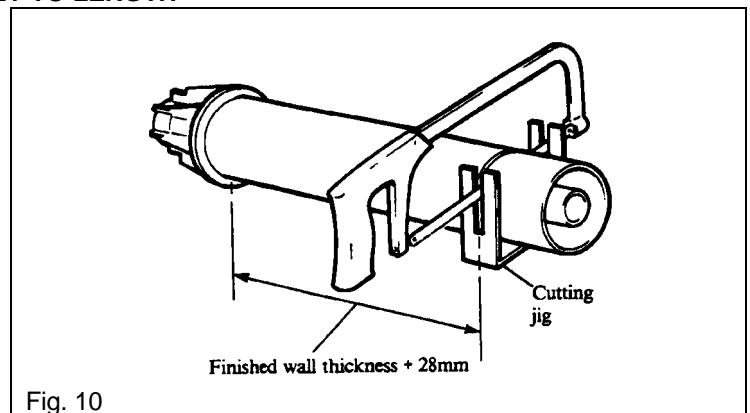

Fig. 10
Refer to Fig. 10.
2. With the cutting jig, supplied with the flue/terminal assembly, in position over the flue/terminal assembly as shown in Fig. 10, cut the tubes to the correct length.